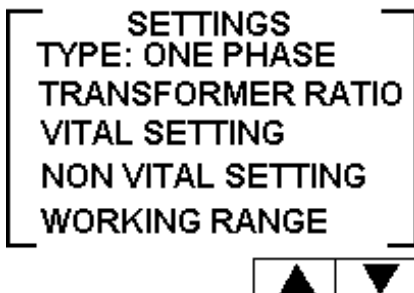

Figure 3.2 – **Settings**.
2. The **Setting** screen appears. (Please see figure 3.2).